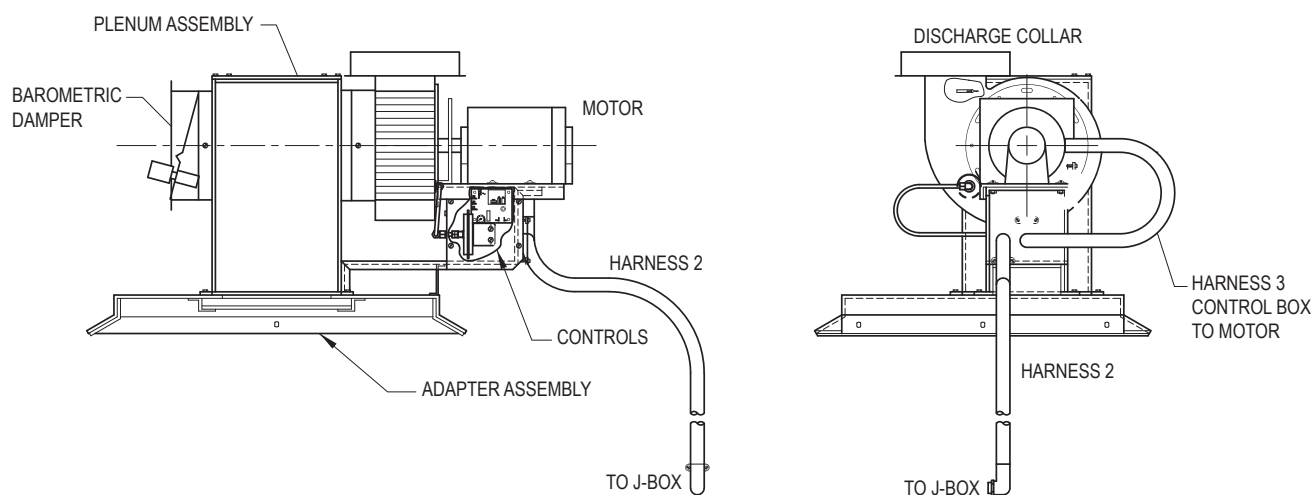

Figure 4. Orientation, Models 0514-0824
3. Locate the plenum assembly to the jacket top, using the silicone sealant and screws provided. Use a #28 drill (.1405") to drill the eight (8) holes needed for the mounting screws. The assembly will be positioned towards the rear of the heater. Note that the main housing is centered on the flue collar of the unit. The discharge collar is offset from that. See table C for dimensions. Once the screw holes have been drilled, run a bead of silicone sealant around the perimeter of the joint and screw the housing into place.
6. Identify and lay out the conduit-enclosed wiring harnesses per the orientation drawing, **Figure 4**.
The D-1 Power Vent for these sizes is installed in the field, directly on the top panel above the built-in drafthood. The adapter plate is anchored to the top using the silicone sealant and screws provided. Refer to **Figure 4**.